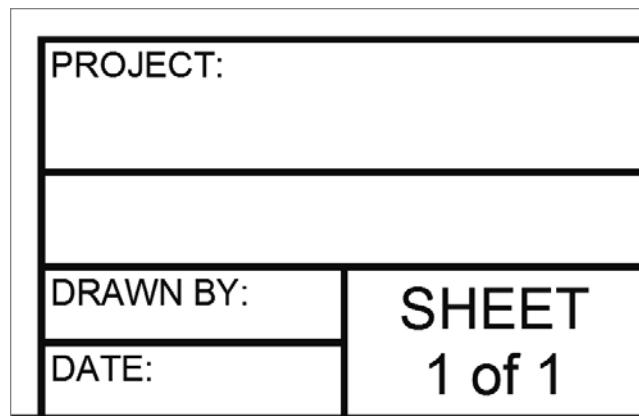

FIGURE 8.49 The text after being inserted and centered vertically
5. With Polar Tracking on, use the MOVE command to move the text down and center it vertically in the box (see Figure 8.49).